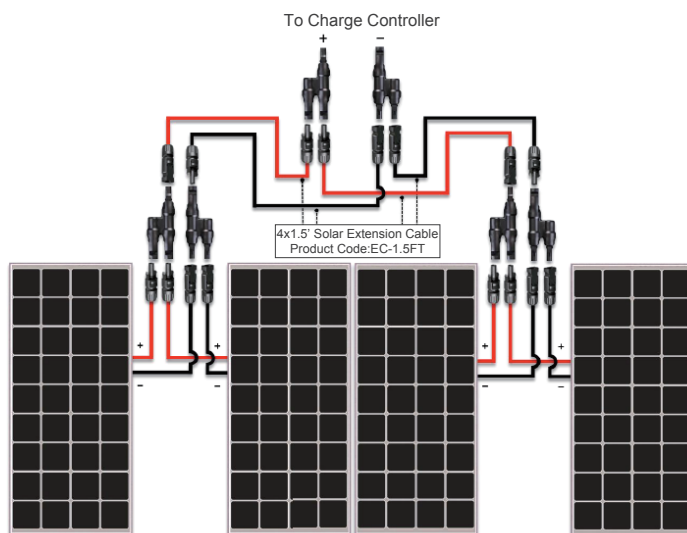

Figure 8.5 Four RNG-100D Panels in parallel
Fig. 8.5 above shows the arrangement for connecting four solar panels in parallel. This arrangement is applicable if the solar panels are to be mounted in a **1x4** configuration as shown above. For this configuration you will need to purchase 4x1.5' Solar Connector Solar Extension Cables. This connection requires a **three (3)** pairs of Solar Y Branch Connectors. When one or multiple panels are mounted at different locations- that is, separated by a distance, the panels must be extended with Solar Connector Extension Cables (sold separately).